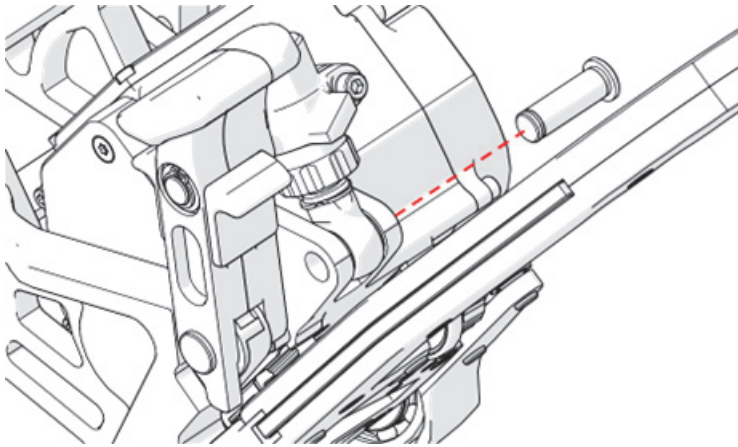

Figure 2-26 Remove the pin
5. Remove the pin that holds the wheel tension cylinder to the carriage (see Figure 2-26 on page 102).